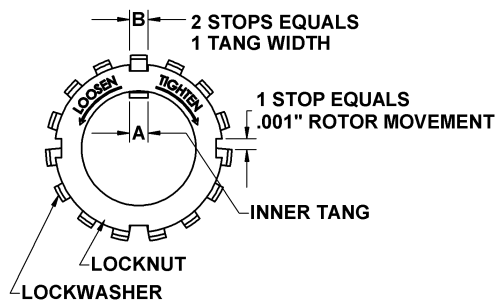

Figure 8- Locknut Assembly
14. Insert the shaft into the cylinder (12). Carefully slide the shaft through the installed mechanical seal (153) and bearing. Align the notch in the rotor with the drive tang on the seal jacket of the mechanical seal. Rotate the shaft to ensure the drive tangs of the mechanical seal are engaged in the notches in the rotor.
15. Install lockwasher (24B) on the shaft protruding through the bearing in the cylinder with the tangs outward. Ensure the inner tang "A" of the lockwasher is engaged in the slot in shaft threads. Bend it slightly, if necessary. (See Figure 8.)
31. Install and finger tighten the head capscrews (21). The head capscrews will be fully tightened after the second locknut is installed.
32. Install lockwasher (24B) on the shaft protruding through the bearing in the head with the tangs outward. Ensure the inner tang "A" of the lockwasher is engaged in the slot in shaft threads. Bend it slightly, if necessary. (See Figure 8.)
It is important that the bearing locknuts (24A) and lockwashers (24B) be installed and adjusted properly. Overtightening locknuts can cause bearing failure or a broken lockwasher tang. Loose locknuts will allow the rotor to shift against the discs (71), causing wear. See Figure 8.